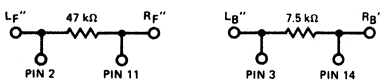

Fig. 5
3. Refer to Figs. 5 and 6 for recommended blend circuits.
It is generally desirable to enhance center front to center back separation. Figure 5 shows an electrical configuration which may be used to accomplish 10% front channel blending and 40% back channel blending. The corresponding equations are: